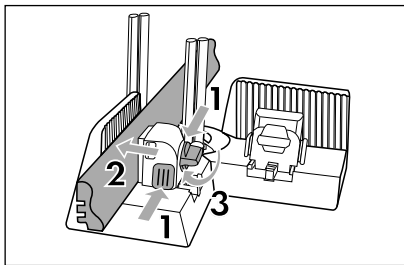

Fig. 8
- ◆ Place the wooden workpiece between the retaining jaw **3** and the tensioning clamp **2**. Make sure that the wooden workpiece is guided past the guide rods **7** (see fig. 8).
- ◆ Hold down the release buttons **4** and push the tensioning clamp **2** onto the wooden workpiece. Let go of the release buttons **4** once the wooden workpiece is clamped (see fig. 8).
- ◆ Turn the locking button **5** clockwise to fix the wooden workpiece in place (see fig. 8).